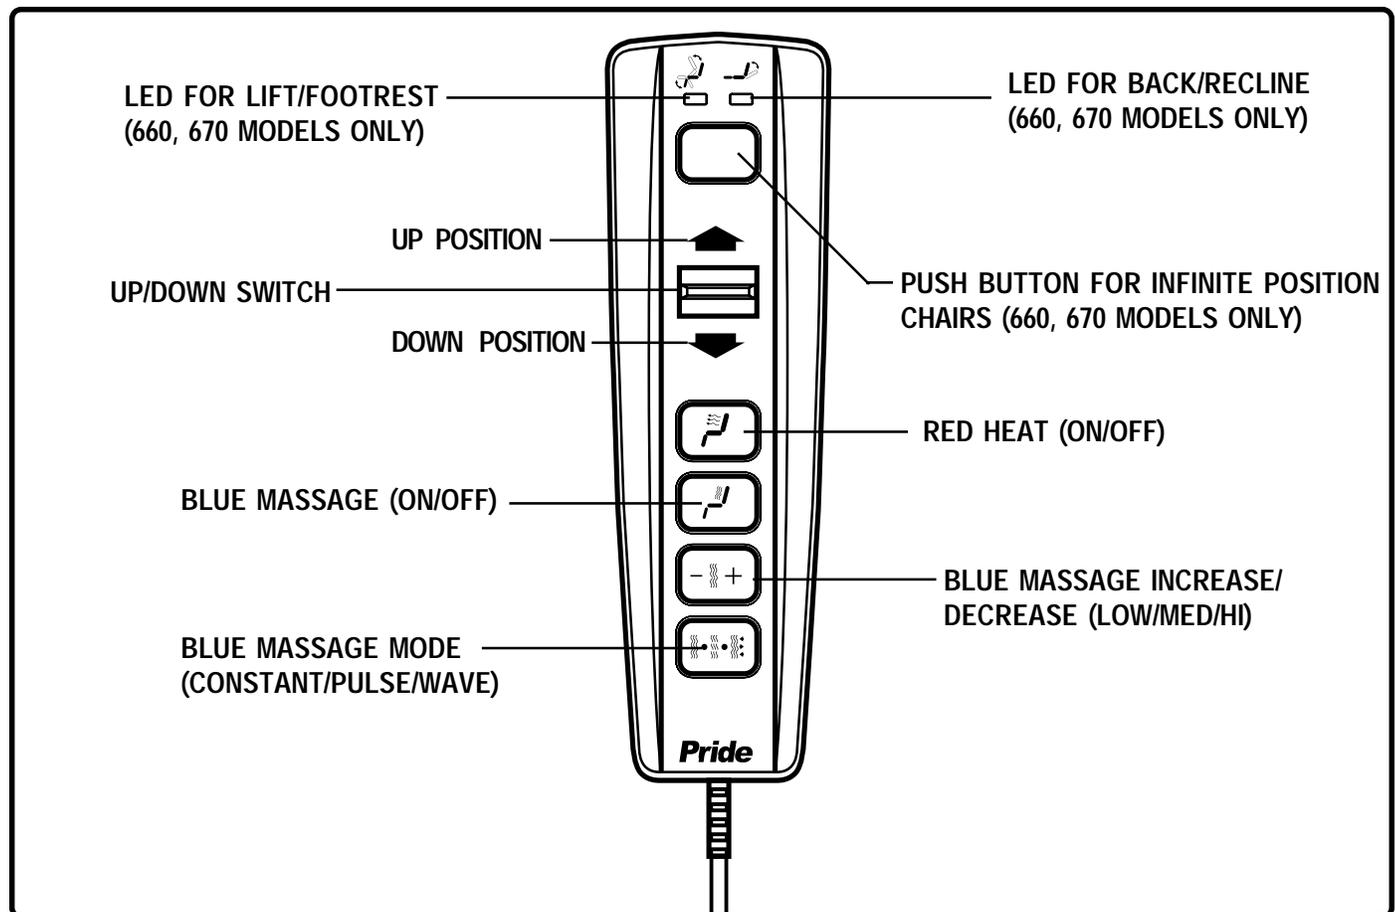

Figure 5.4 Deluxe Heat and Massage Hand Control
1. Press the red heat on/off button to activate the deluxe heat option (Fig. 5.4). The heat will shut off after 12-15 minutes of continuous use.
1. Press the blue massage on/off button to activate the deluxe massage option (Fig. 5.4).
2. Press the blue massage increase/decrease button until the desired massage intensity is selected (Fig. 5.4).
3. Press the blue massage mode button until the desired type of massage is selected (Fig. 5.4).